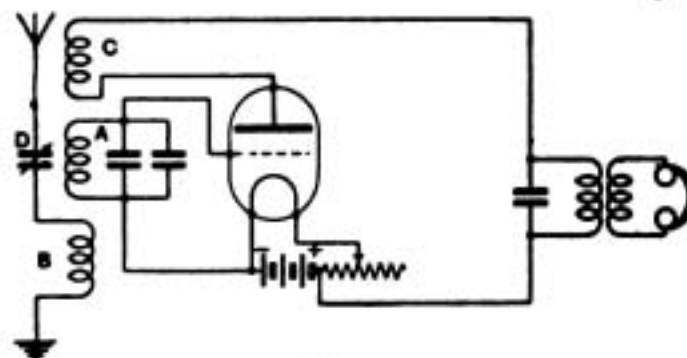

Fig. 3.
E.S.R.B. (Shoeburyness) proposes to make a receiver of the self-heterodyne type as described in the issue of February, 1920, and gives dimensions of two condensers he wishes to employ in it. He asks (1) What are the capacities of the condensers. (2) For a diagram showing suitable positions of condensers in a circuit of the type specified and for dimensions of pancake coils (as in article in issue of 12th June, 1920), to give range of 6,000 ms. (3) What modification should he make for reception of spark signals. (4) If he can use a dynamo giving 8 volts, 3 to 4 amps, to light valve, instead of accumulator.
(1) 0.0004 mfds. and 0.00016 mfds. respectively. (2) See Fig. 3. Neither of your condensers are suitable for aerial tuning purposes. You could